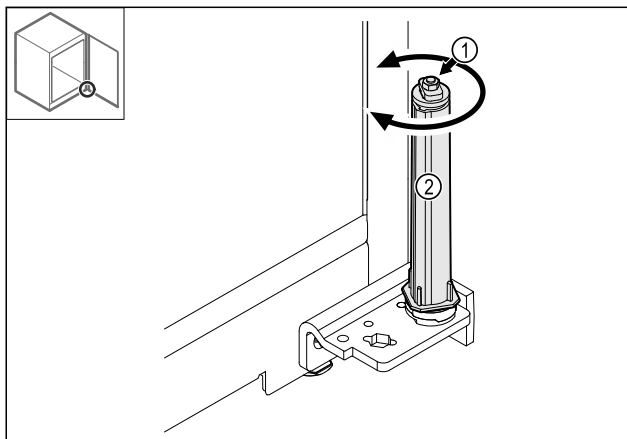

Fig. 41
- Do not dismantle the screw connection Fig. 41 (1) on the locking system.
- Turn the locking system Fig. 41 (2) until it clicks.